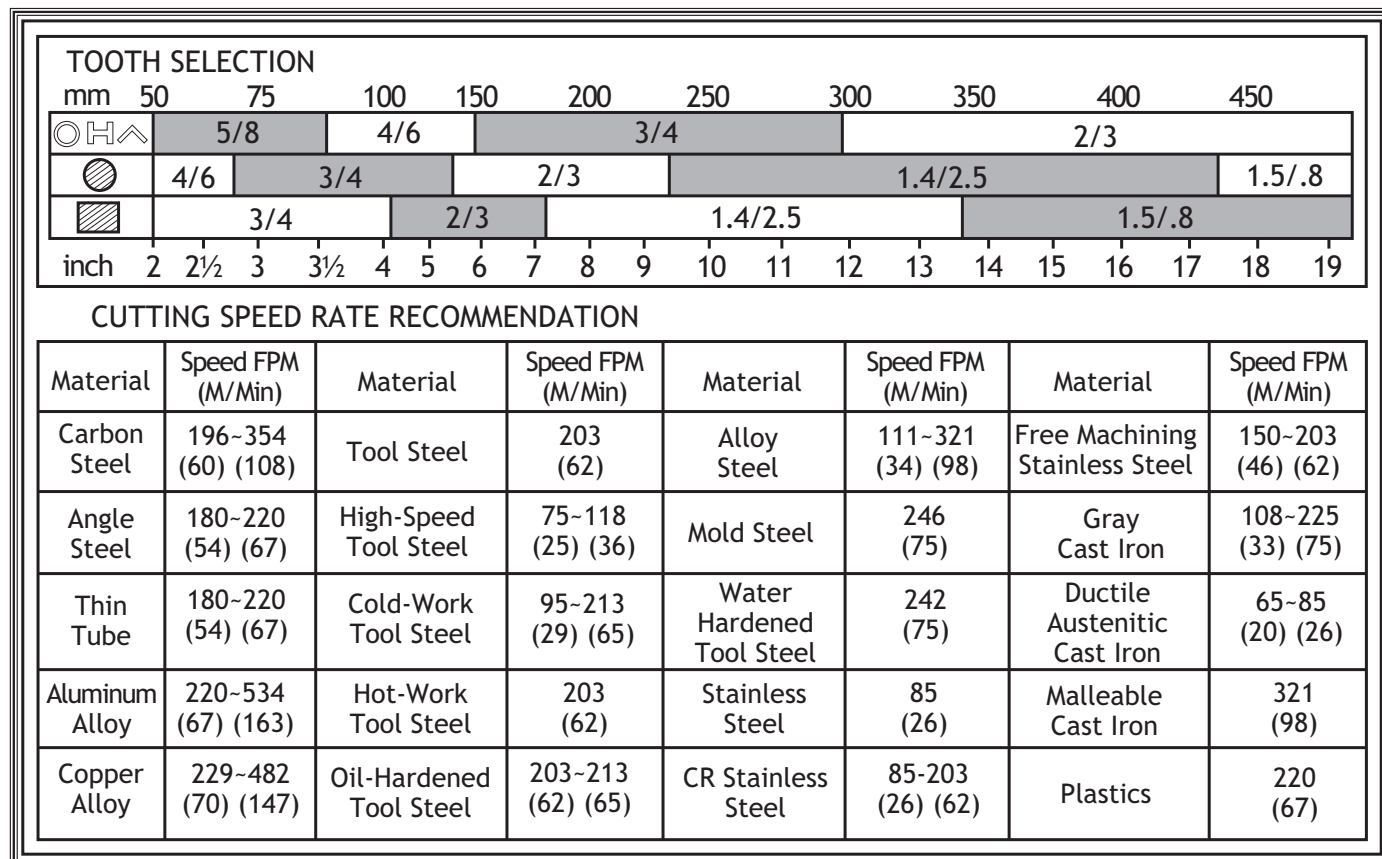

Figure 26. Blade selection chart.
2. Refer to the "Material Thickness" row of the blade selection chart in **Figure 26**, and read across to find the workpiece thickness you need to cut.